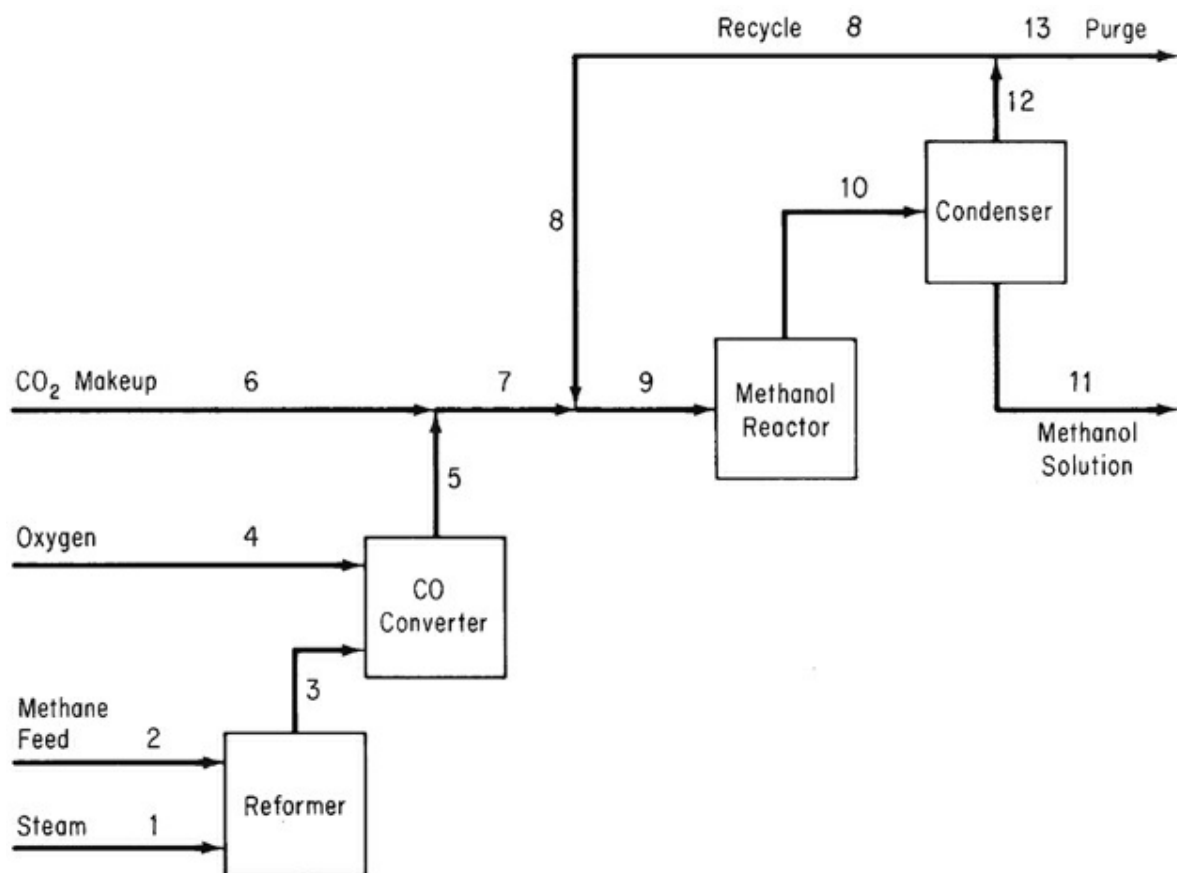

Figure P5.4.3
***5.4.3 A process for methanol synthesis is shown in Figure P5.4.3. The pertinent chemical reactions involved are
Because the methane feed contains 1% nitrogen as an impurity, a portion of the recycle stream must be purged as shown in Figure P5.4.3 to prevent the accumulation of nitrogen in the system. The purge stream analyzes 5% nitrogen.